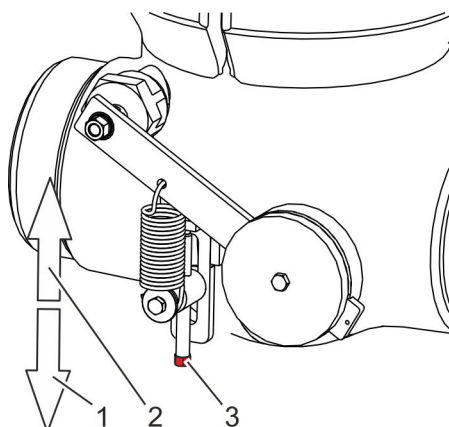

Fig. 47: Setting the preliminary spring tension
26. Use the adjusting screw (Fig. 47/3):
- Undoing the adjusting screw (screwing it in (Fig. 47/1)): reduces the closing support (lower preliminary spring tension)
- Tightening the adjusting screw (screwing it out (Fig. 47/1)): increases the closing support (higher preliminary spring tension)